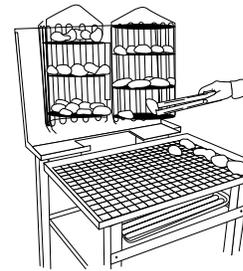

FIGURE 14
8. **Unload Basket** (Figure 14, next page). Place cooked products on corrugated tray and turn cavity (bone) down where applicable. Place tray in holding cabinet.